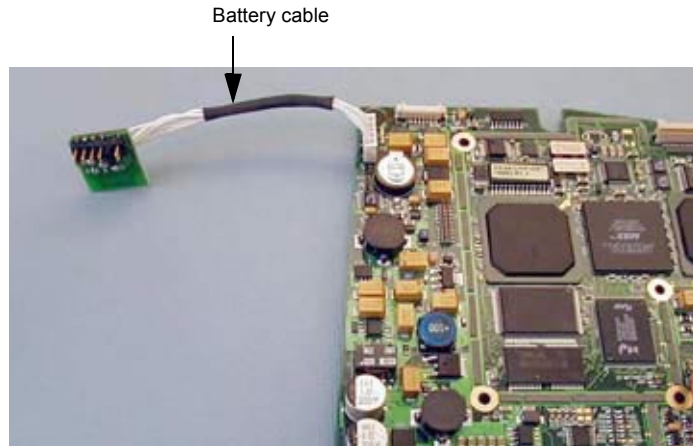

Figure 7.8 Battery Cable from Main P CBA
- 10 Remove the battery cable from the Main PCBA and set it aside. (Figure 7.8)
- 1 Attach the battery cable to the replacement Main PCBA. (Figure 7.8)